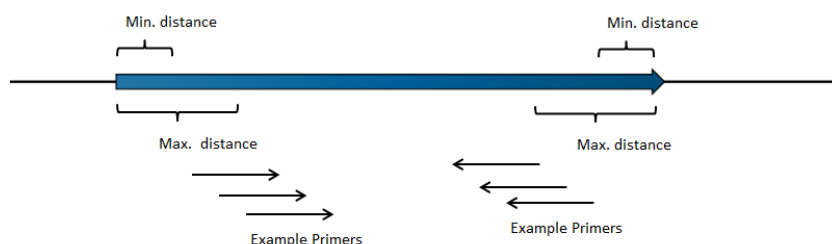
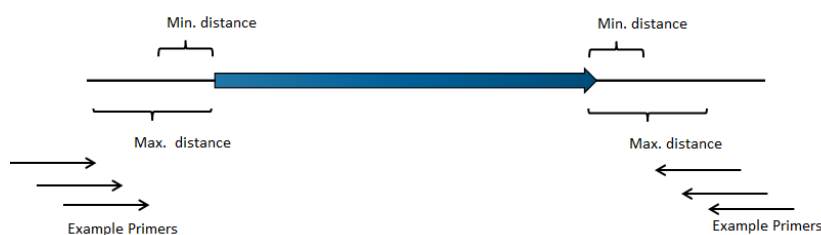

Figure 6.4: Illustration of how inside PCR primers are positioned.
Figure 6.5: Illustration of how outside PCR primers are positioned.
- *Type of primer.* Two types of primers can be created. The *PCR* primer option creates a primer pair around a target region (see figure 6.4). The *sequencing* primer option creates a single primer sequence for a target region on either the forward or the reverse strand (see figure 6.3).
- *Relative to annotation.* Allows specification of whether primers should be targeted inside (figure 6.4) or outside (figure 6.5) the selected annotation.